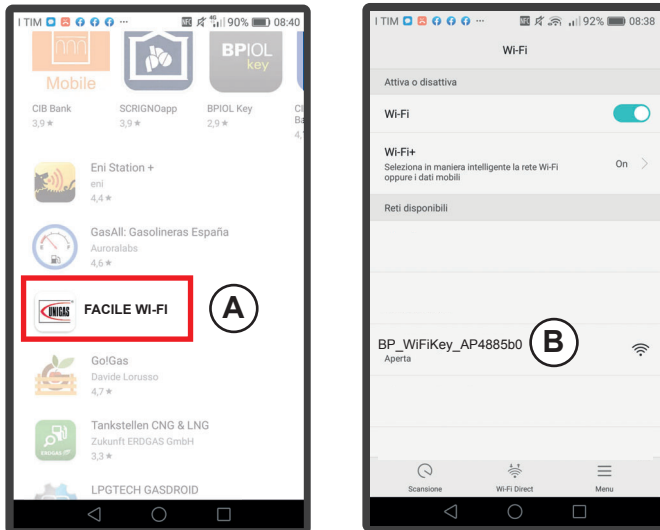

Fig. 1
**1.2** - Using an Android device (mobile phone or tablet), connect to the WI-FI network (B) generated by the burner WI-FI module (Fig. 1). The name of the network generated by the module is shown on the WI-FI module ID label (Fig. 2).